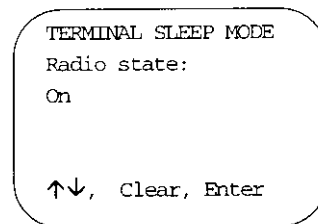

Figure D-8. Terminal Sleep Mode Screen
7. Select **Terminal Sleep Mode** from the main configuration menu. The *Terminal Sleep Mode* screen (Figure D-8) is displayed.